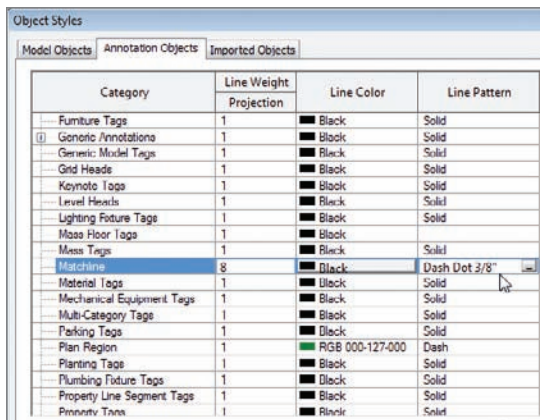

FIGURE 13.11 Changing the Matchline line pattern to Dash Dot 3/8"
2. Click the Annotation Objects tab, as shown in Figure 13.11.
5. After you click into the cell, you will see a menu arrow. Click it and select Dash Dot 3/8" (see Figure 13.11).